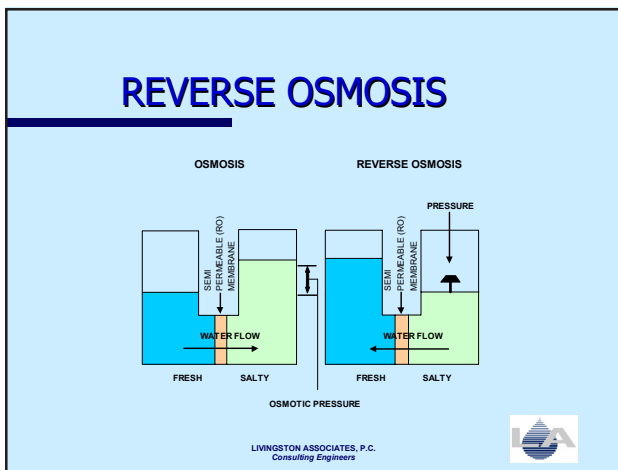

Figure 1.
For those of you unfamiliar with reverse osmosis (RO), let me describe the process. In the natural system there is a process called osmosis where fresh water permeates through a semi-permeable membrane, such as a cell wall in plants and animals, into a more salty environment. It does so through osmotic pressure. If you go the other way, you reverse that osmotic pressure by putting a salty solution through a semi-permeable membrane to get fresh water. Figure 1 depicts these two processes.
Typically in a RO membrane situation, you have the RO membrane that is represented by the yellow line in Figure 1. That is a plastic material, a polyamide material. The mechanisms for removing salts or